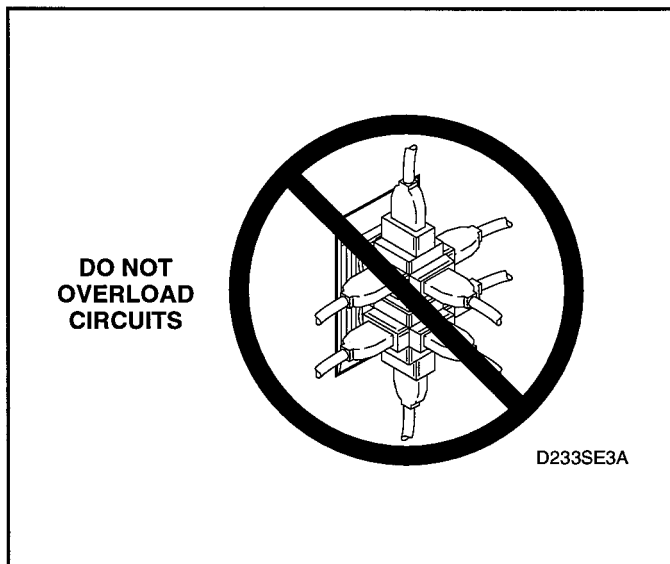

Figure 9-5
- **DO NOT OPERATE OTHER APPLIANCES ON THE SAME CIRCUIT. DO NOT OVERLOAD CIRCUITS!** See figure 9-5.